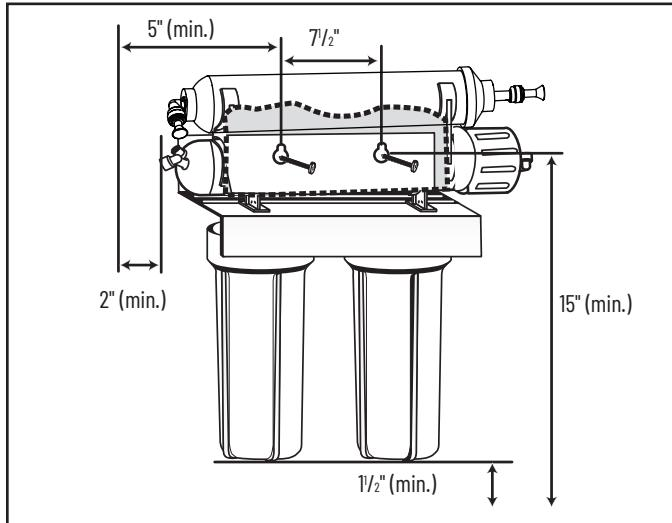

Figure 11
- If system is being installed under the kitchen sink, locate it on back or right wall. Make sure to allow ample space for installation (Figure 11). To change the filter cartridges, a minimum of 1-1/2" of clearance is required underneath the filter housings. A minimum of 2" of clearance from the left side of the unit is also required or 5" from the left bracket mounting screw hole.